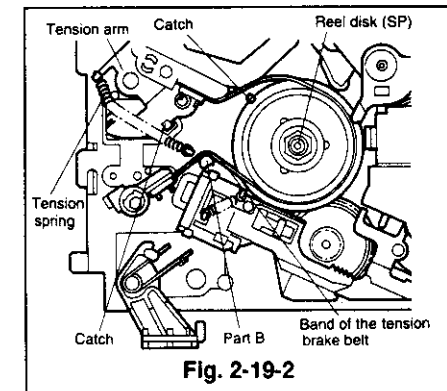
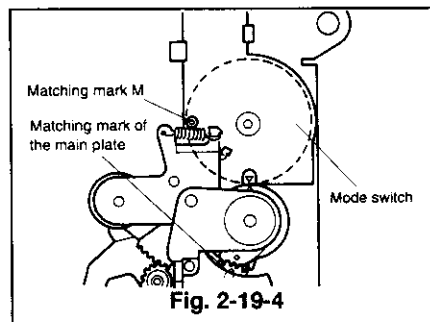
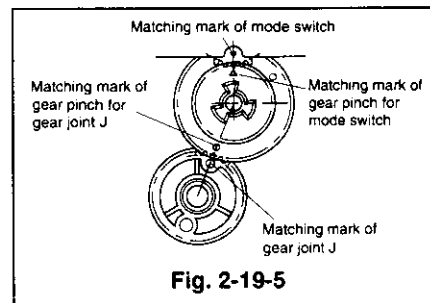

Fig. 2-19-2
Fig. 2-19-4
Fig. 2-19-5
- 5 Remove the tension spring, unfasten the catch shown in Fig. 2-19-2, and raise the tension arm upward to remove it.
- 3 Fasten the tension brake belt around the supply reel disk. (The band of the tension brake belt must pass the outside of the catch shown in Fig. 2-19-2 and inside of the part B.)
- 5 Install the sub brake(SP) and sub spring(SP). (Refer to Para. 2-14 for the installation method.)
- 6 Supply voltage (approximately 5V), reversing the polarity used in ② of the Removal method, to set the motor to the unloaded position.
- 7 Make sure that the holes (matching mark M) on the body and cogwheel of the mode switch align with each other as shown in Fig. 2-19-4. At the same time confirm that the hole of the gear pinch aligns with the matching marks of the gear joint J and the ▽mark on the mode switch cogwheel, refer to Fig. 2-19-5. This indicates the J deck is in the EJECT mode.